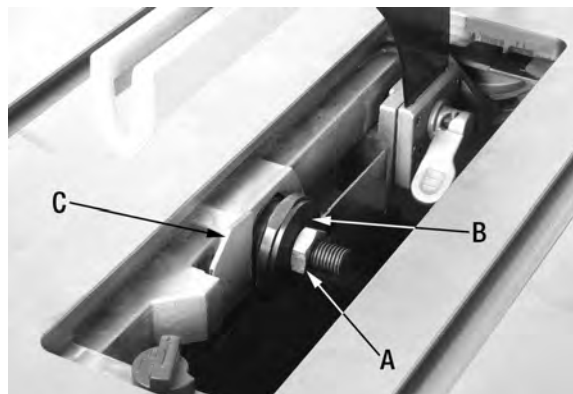

FIGURE 20
- 2) Remove the arbor nut (A) Fig.20 by turning it counterclockwise, then remove the blade flange (B). If the arbor nut is too tight to remove by hand, push spindle lock (C) towards the right to lock spindle shaft and use the supplied blade wrench to loosen arbor nut.